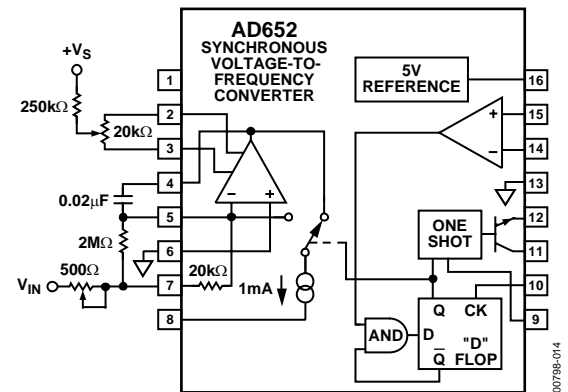
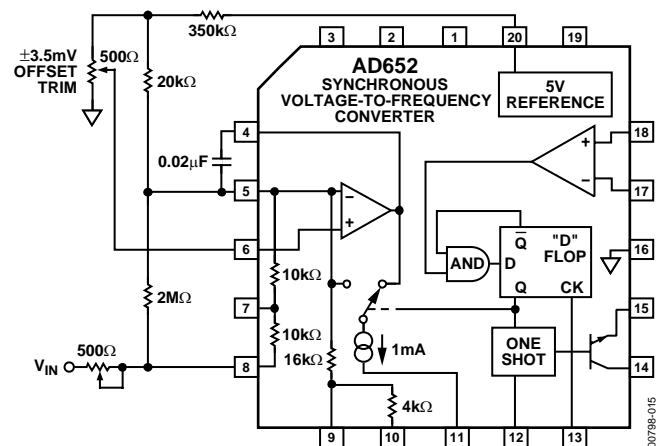

Figure 14. Cerdip Gain and Offset Trim
Figure 15. PLCC Gain and Offset Trim
The gain error of the AD652 is laser trimmed to within  $\pm 0.5\%$ . If higher accuracy is required, the internal 20 k $\Omega$  resistor must be shunted with a 2 M $\Omega$  resistor to produce a parallel equivalent that is 1% lower in value than the nominal 20 k $\Omega$ . Full-scale adjustment is then accomplished using a 500  $\Omega$  series trimmer. See Figure 14 and Figure 15. When negative input voltages are used, this 500  $\Omega$  trimmer is tied to ground and Pin 6 is the input pin.
The offset of the op amp may be trimmed to zero with the trim scheme shown in Figure 14 for the CERDIP package and Figure 15 for the PLCC package. One way of trimming the offset is by grounding Pin 7 (8) of the CERDIP (PLCC) device and observing the waveform at Pin 4. If the offset voltage of the op amp is positive, the integrator has saturated and the voltage is at the positive rail. If the offset voltage is negative, there is a small effective input current that causes the AD652 to oscillate; a sawtooth waveform is observed at Pin 4. The potentiometer should be adjusted until the downward slope of this sawtooth becomes very slow, down to a frequency of 1 Hz or less. In an analog-to-digital conversion application, an easier way to trim the offset is to apply a small input voltage, such as 0.01% of the full-scale voltage, and adjust the potentiometer until the correct digital output is reached.